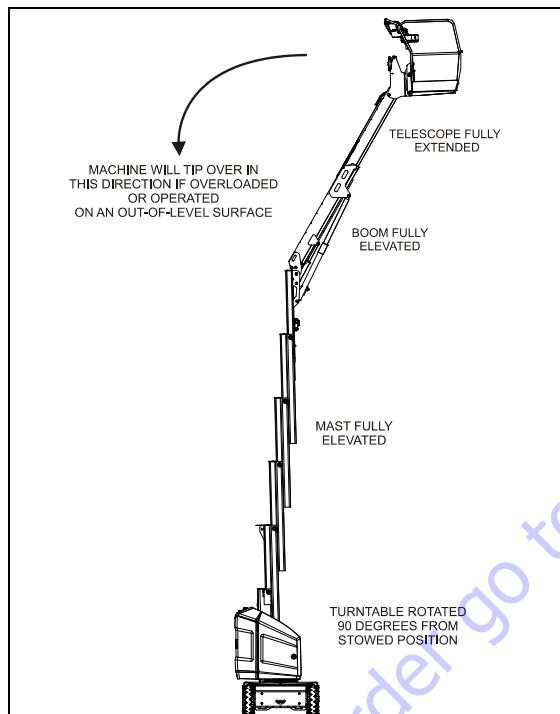

Figure 3-1. Position of Least BACKWARD stability
Machine stability is based on two (2) conditions which are called FORWARD and BACKWARD stability. The machine's position of least FORWARD stability is shown in Figure 3-2. and its position of least BACKWARD stability is shown in Figure 3-1.